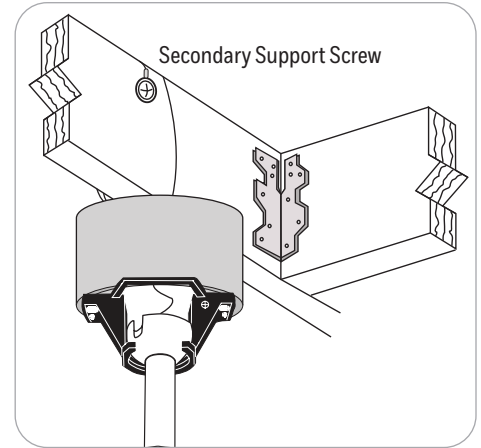

Figure 4.3
- Tighten the secondary support screw, securing the braided cable (Figure 4.3).